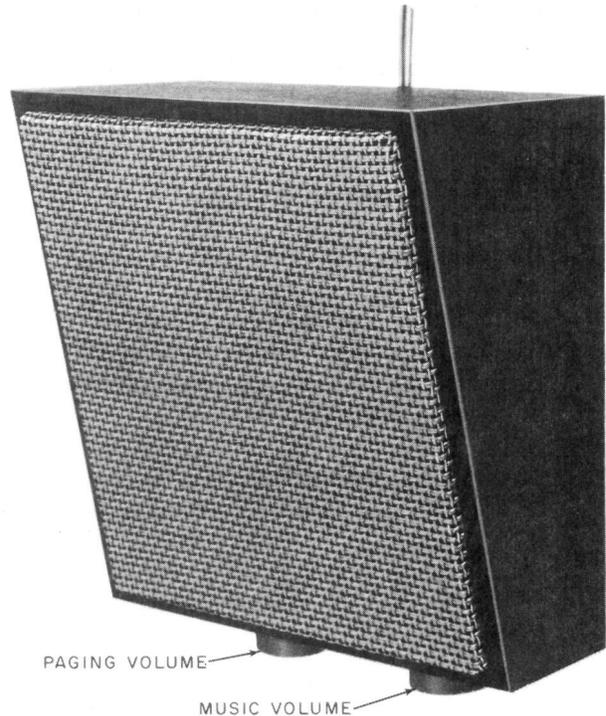

Fig. 22—109A Loudspeaker Set
3.22 109A Loudspeaker Set (Fig. 22, 23, 24, and 33)
(c) If background music is provided, adjust the volume control of the 33A voice coupler to mid-range; then adjust the right-hand volume control(s) on the loudspeaker(s) to the desired music level (Fig. 22). The volume control of the 33A voice coupler may be readjusted, if necessary, to raise or lower the overall music level.
- (1) At any telephone set, depress an idle IC button and the DSS button that corresponds to the 109A loudspeaker set (if background music is provided it will be muted). Speak into the transmitter and adjust the volume control to the level desired by the customer (Fig. 22).